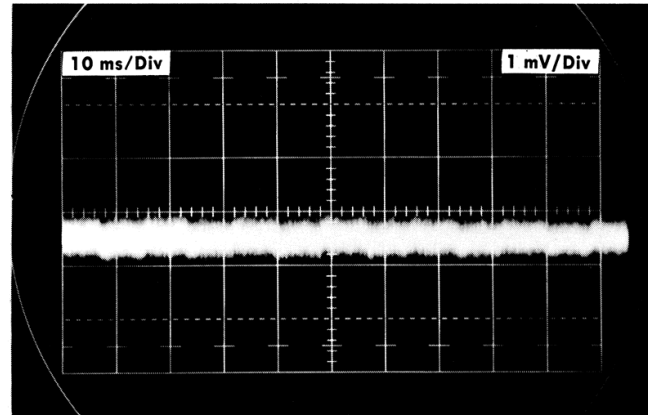

Fig. 6-5. Typical test oscilloscope display of power supply ripple.
c. Obtain a display of the supply voltage ripple similar to the display shown in Fig. 6-5. Other period switch settings will increase the amount of ripple observed. This is normal.